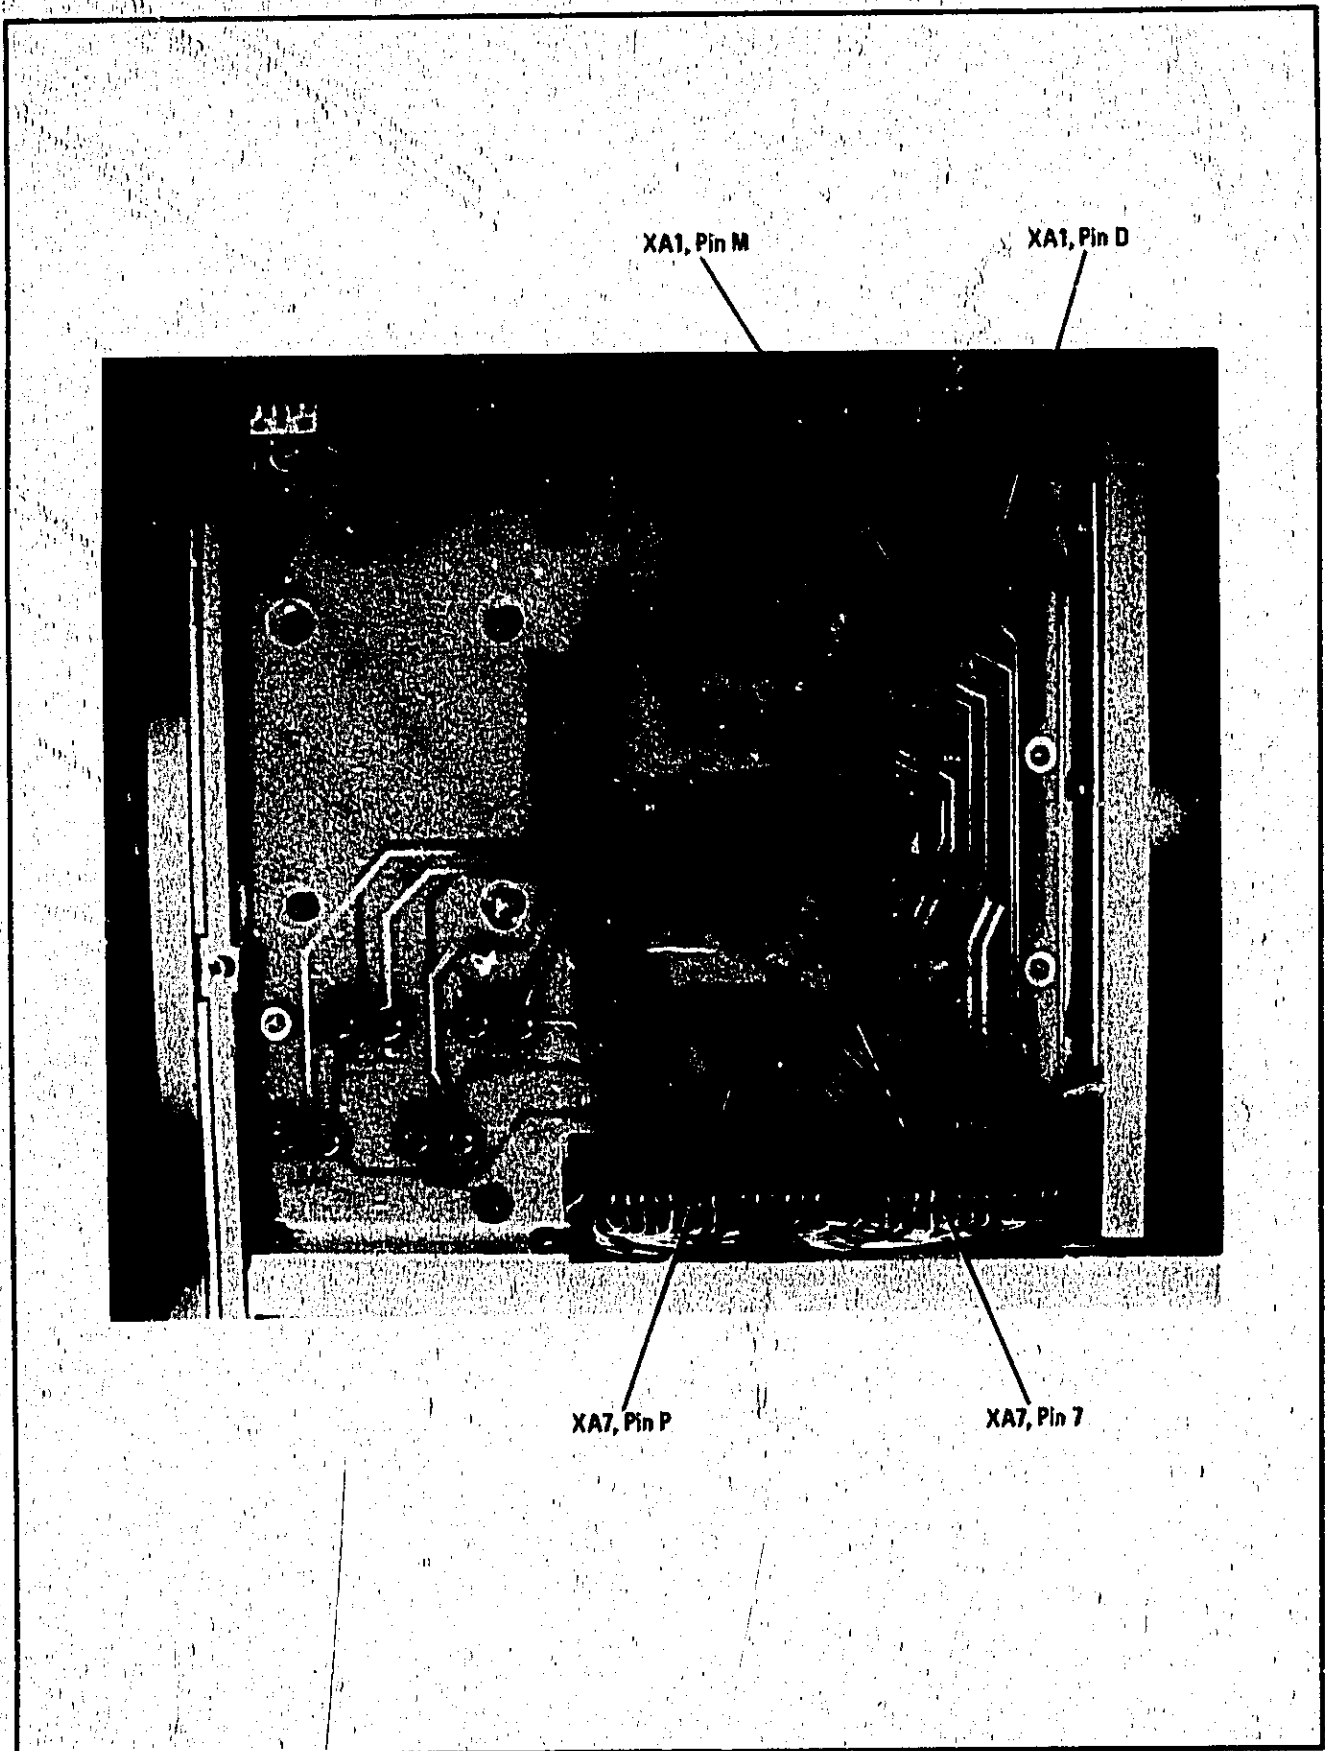

Figure 2. Master Board After Modification
3. Install one of the brown wires from the Modification Kit between XA1, Pin D, and XA7, Pin P. (See Figure 2 for proper routing.)